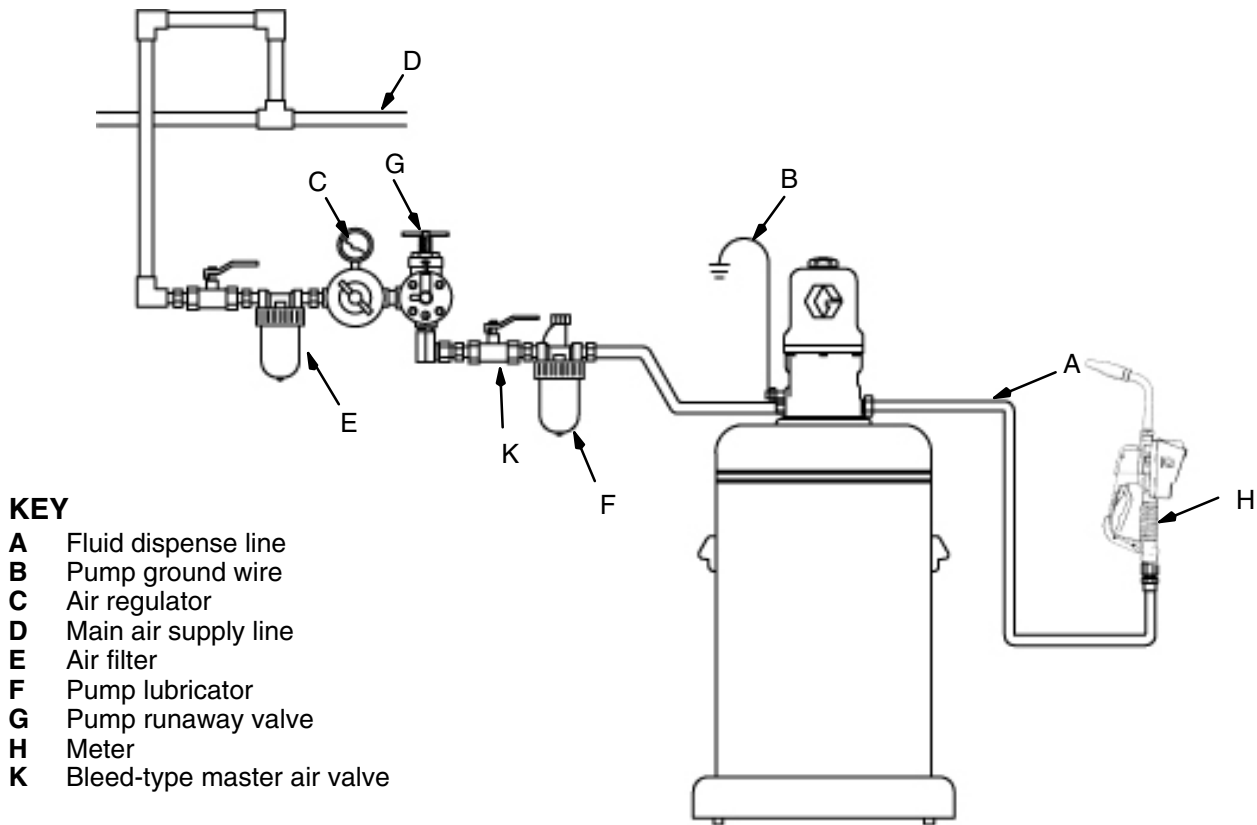

**Fig. 1**
- *Pump:* Use ground wire and clamp as shown in Fig. 1.
**To ground the pump,** remove ground screw (Z) and insert through the eye of the ring terminal at end of ground wire (Y). Fasten ground screw back onto pump and tighten securely. Connect the other end of ground wire to a true earth ground. See Fig. 1. *To order a ground wire and clamp, order Part No. 222011.*